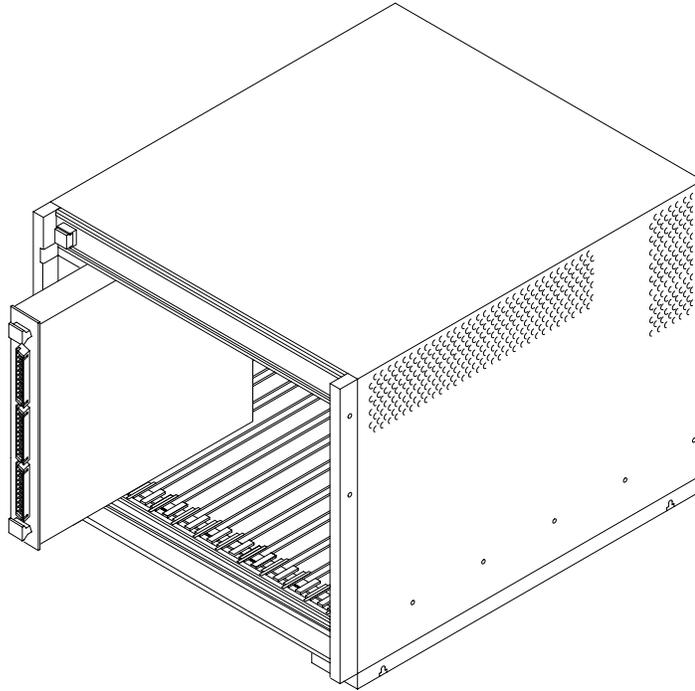

Figure 1-6: Module Installation
4. Insert the module into one of the instrument slots of the mainframe (see Figure 1-6).